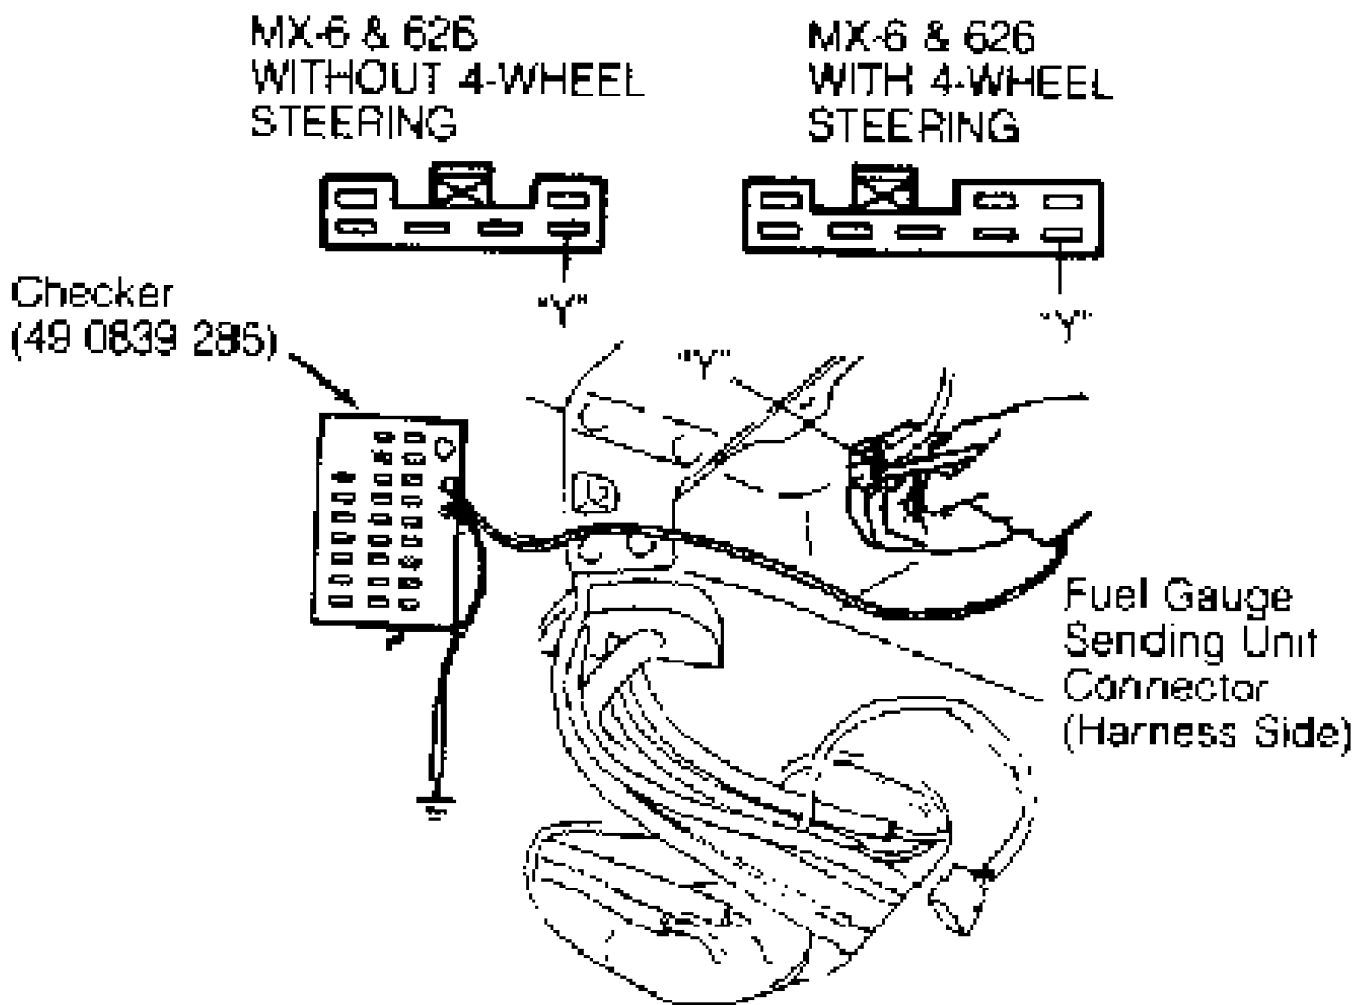

Fig. 3: Testing Fuel Gauge Resistance (All Are Similar)
- 2) Connect Red wire lead of Checker (49-0839-285) to "Y" terminal (harness side) of sending unit connector. See Fig. 3. Connect checker Black wire lead to body ground.